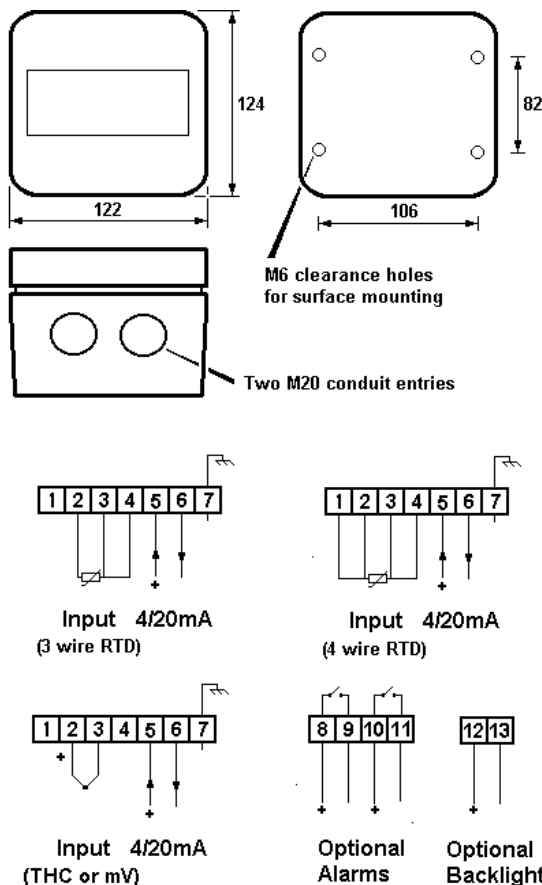

Fig 4 Dimensions and terminal connections
- e. Connect the field wiring to the terminals as shown in Fig 4.